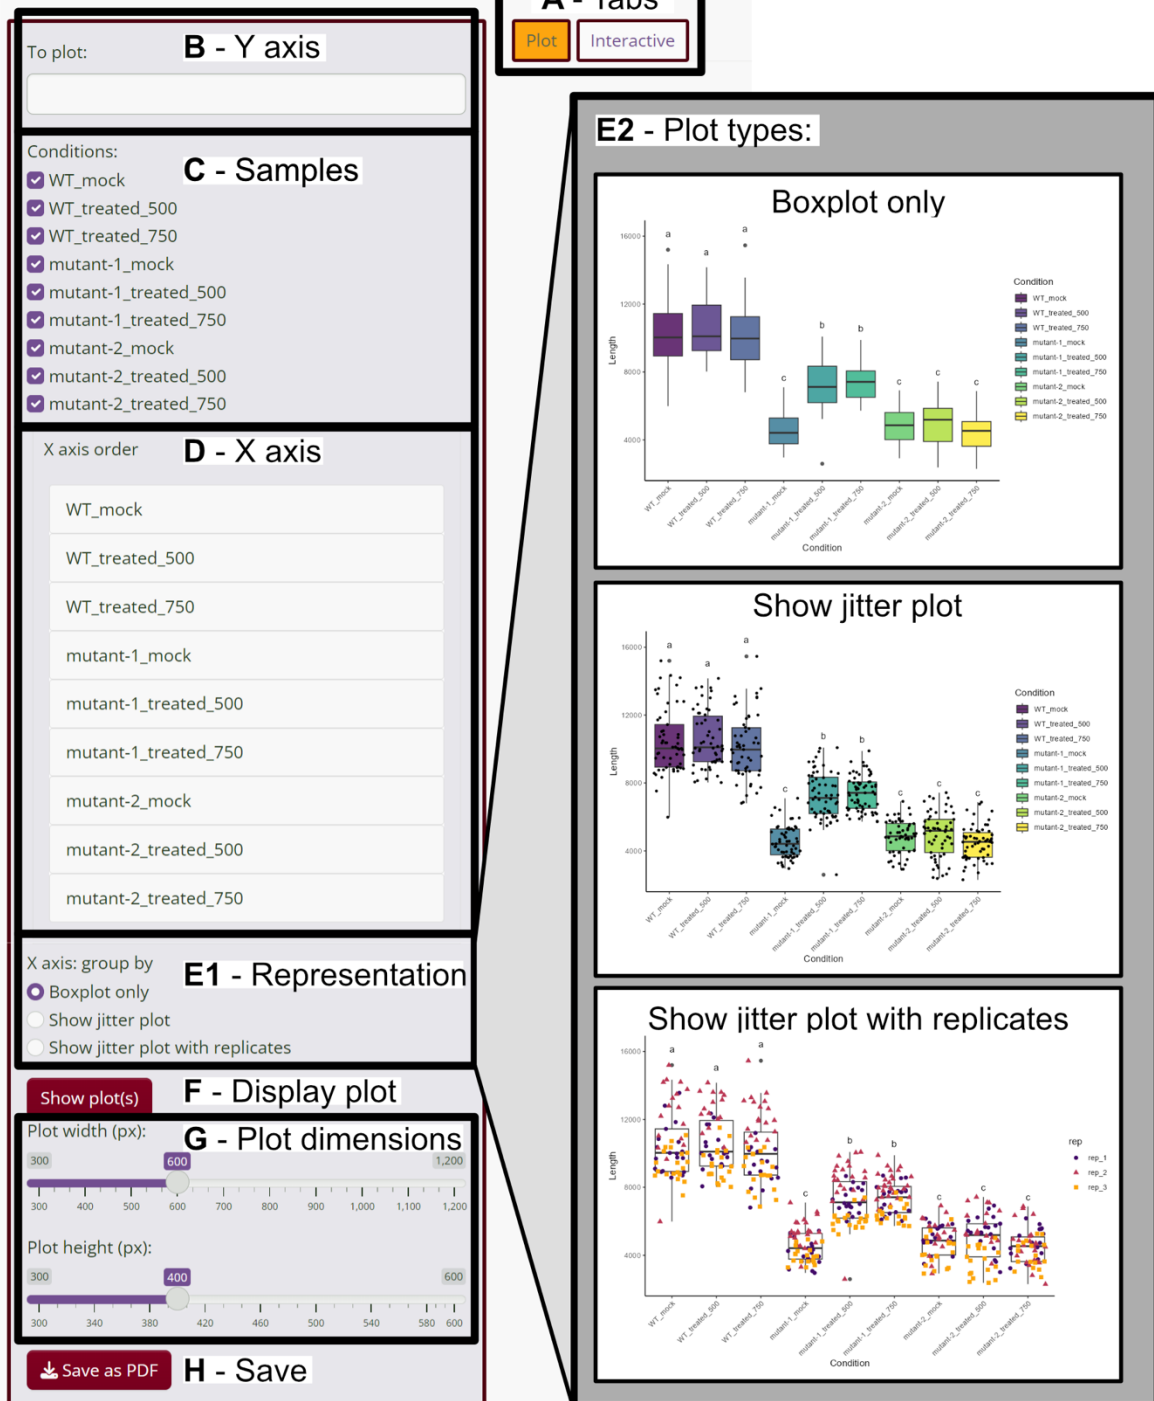

Figure 8: RRQuant app description
- 6- Once the statistical analysis is done, the RRQuant shiny app opens (Figure 8).
- 7- Plots can be saved in the location of your choice. All displayed plots in the app are saved in the same document. For more detailed information about how to use the app, see Figure 8 legend.